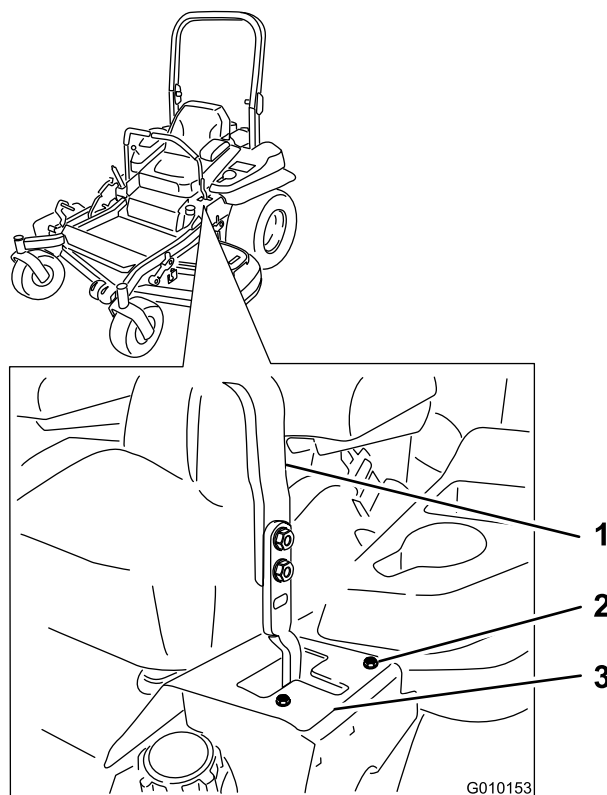

Figure 83
- If the machine tracks to the right, loosen the bolts and adjust the left stop plate rearward on the left T-slot until the machine tracks straight (Figure 83).
- If the machine tracks to the left, loosen the bolts and adjust the right stop plate rearward on the right T-slot until the machine tracks straight (Figure 83).
8. Tighten the stop plate (Figure 83).